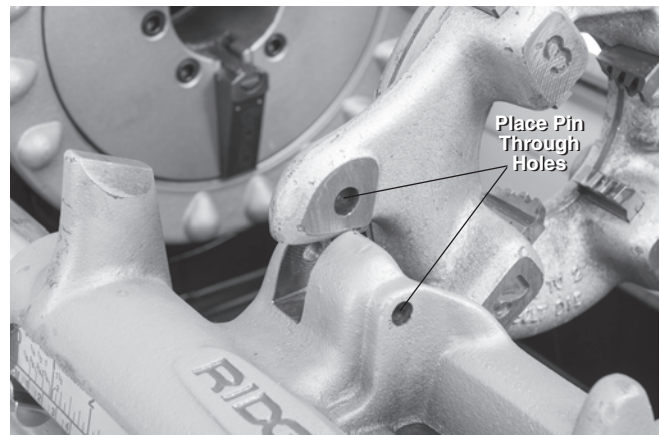

Figure 26 – Retaining LH Die Head in Place
3. Place a 5/16" pin 2" long through the holes in carriage rest and left hand die head to retain in place (see Figure 26).